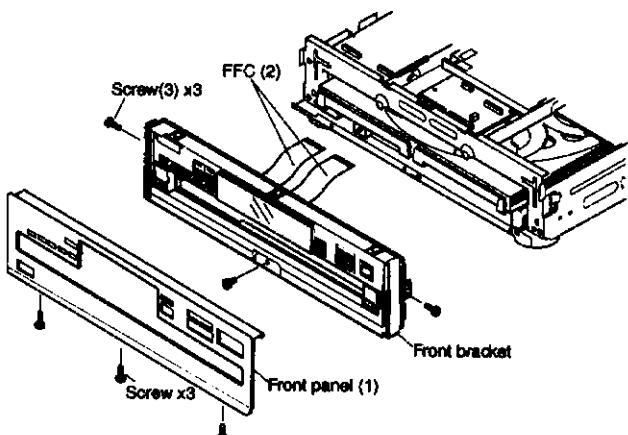

Fig. 2-1-3
1. Remove the front panel. (Refer to Fig. 2-1-3.)
2. Disconnect two FFCs (1) and peel off the tape (2).
3. Remove eight screws (3) and the display PC board (4).
4. Remove three screws (5) and the switch PC board (6).
2. Pull out the tray (1) until it stops.
3. Disconnect one FFC (2).
4. Pull the claw (3) and pull out the tray (1) to this side.